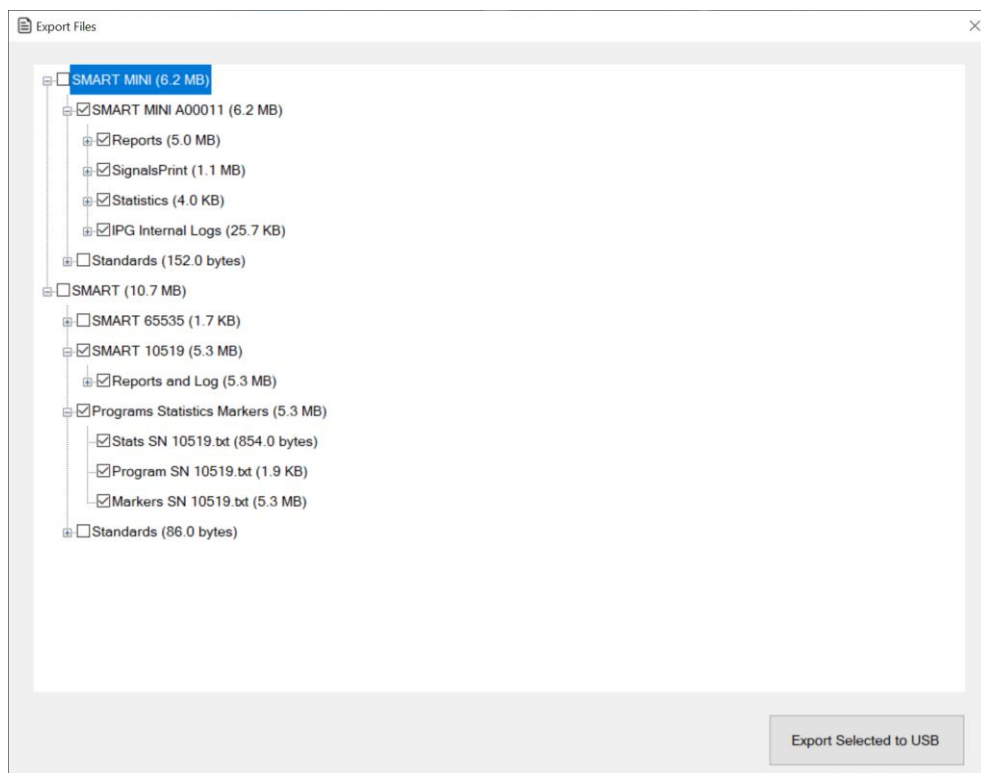

Figure 80: Example of Export File Screen
5. Select the check box to the left of each folder or file to add it to the list of files to be exported to the USB flash drive. **See Figure 80.**